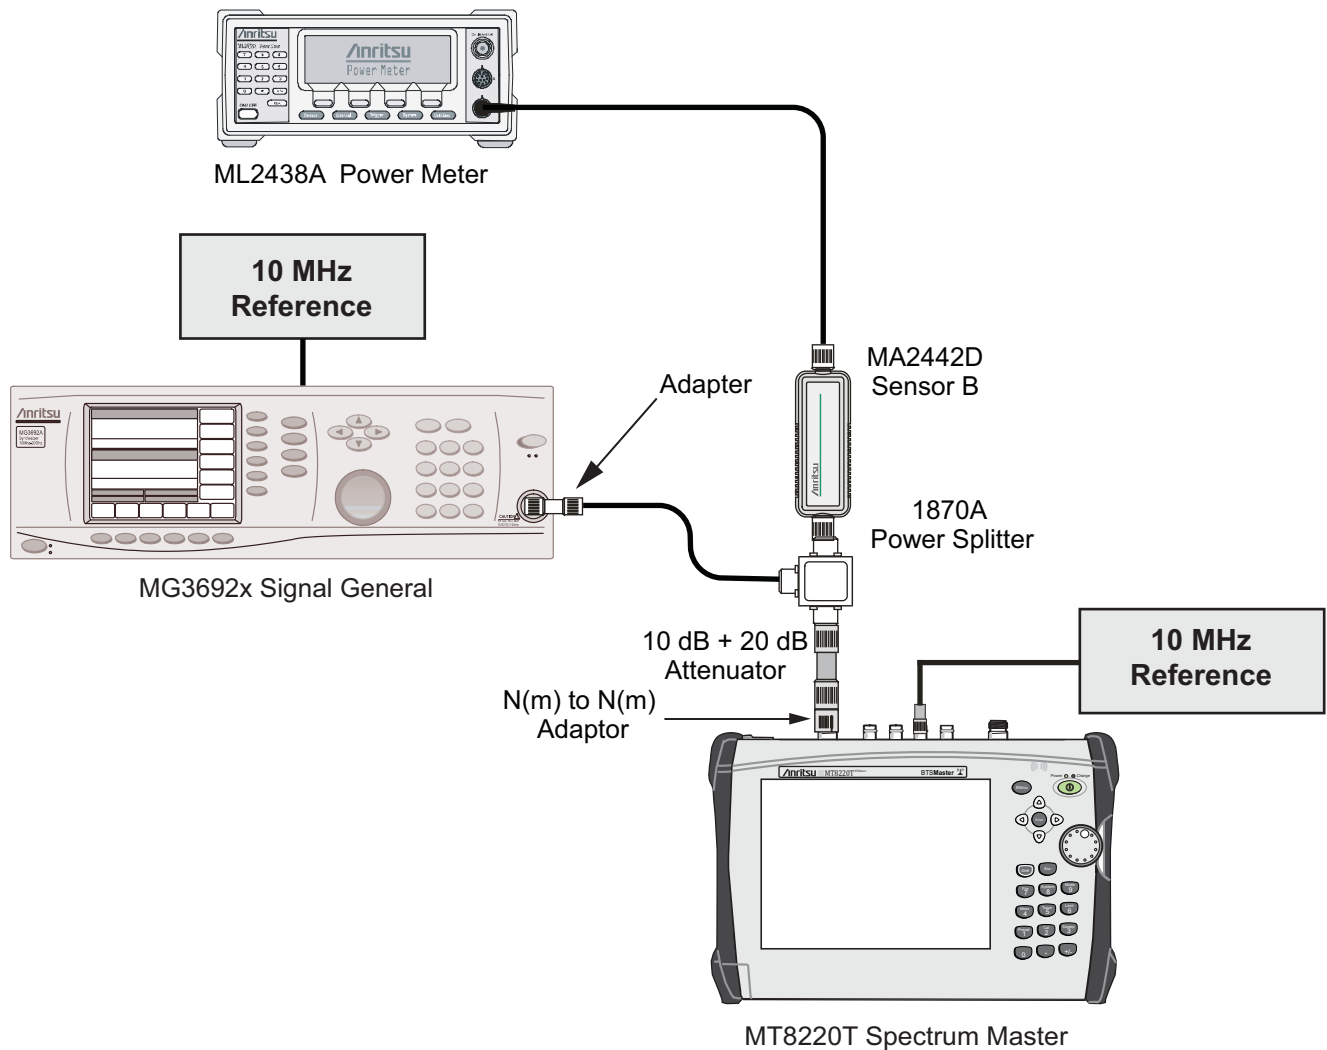

Figure 2-6. Pre-Amp Accuracy Across Frequency Verification Test Setup
1. Connect the equipment as shown in Figure 2-6.